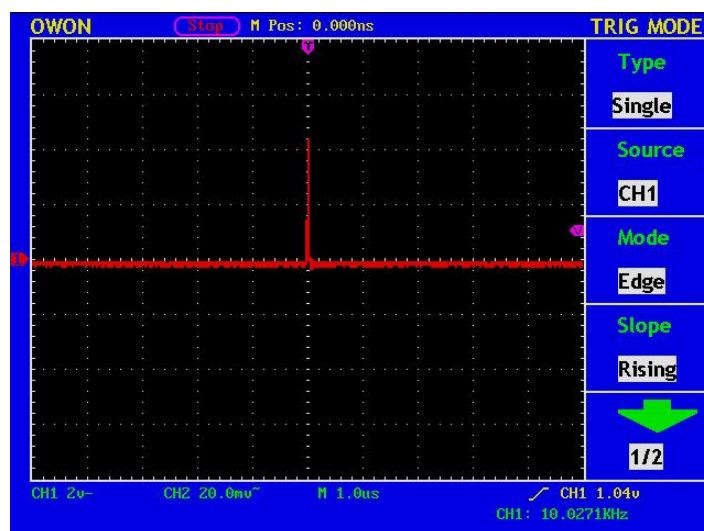

Fig. 110 Capture the Single Signal
- If the **Trigger State Indicator** at the top of the screen does not indicate **Ready**, push down the **RUN/STOP** button and start **Acquire**, waiting the emergence of the signal in conformity with the trigger conditions. If a signal reaches to the set trigger level, one sampling will be made and then displayed in the screen. With this function, any random occurrence can be captured easily. Taking the burst burr of larger amplitude for example, set the trigger level to the value just greater than the normal signal level, and then presses the **RUN/STOP** button and waits. When there is a burr occurring, the instrument will trigger automatically and record the wave form generated during the period around the trigger time. With the **HORIZONTAL POSITION** knob in the horizontal control area in the panel rotated, you can change the horizontal position of the trigger position to obtain the negative delay, making an easy observation of the waveform before the burr occurs (see Fig. 110).